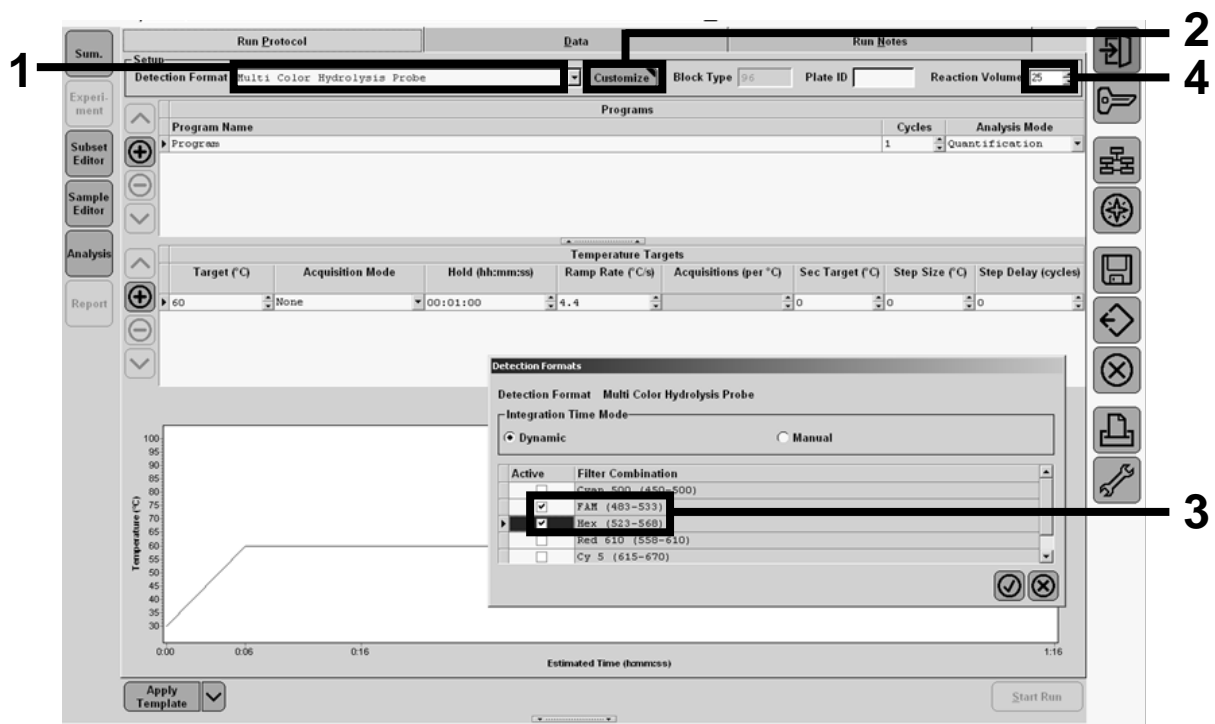

Figure 21. LightCycler 480 I: Setting the detection format.
- 11a. LightCycler 480 I: Select "Multi Color Hydrolysis Probe", click "Customize", and then check that the channels "FAM (483–533)" and "Hex (533–568)" (i.e., VIC) are selected (Figure 21). Set the reaction volume to "25" μ l (Figure 21) and proceed with step 12.